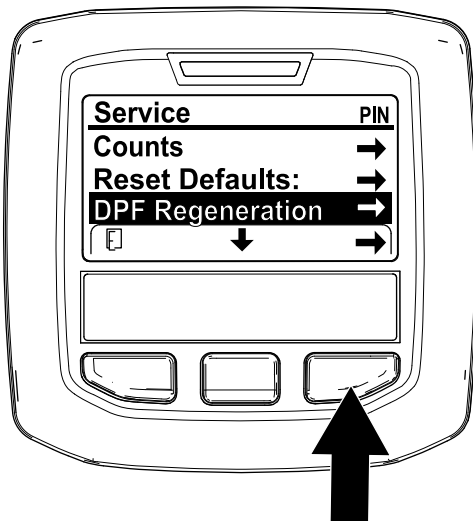

Figure 58
1. Access the Service menu, press the center button to scroll down to the DPF REGENERATION option (Figure 58).
2. Press the right button to select the DPF Regeneration entry (Figure 58).